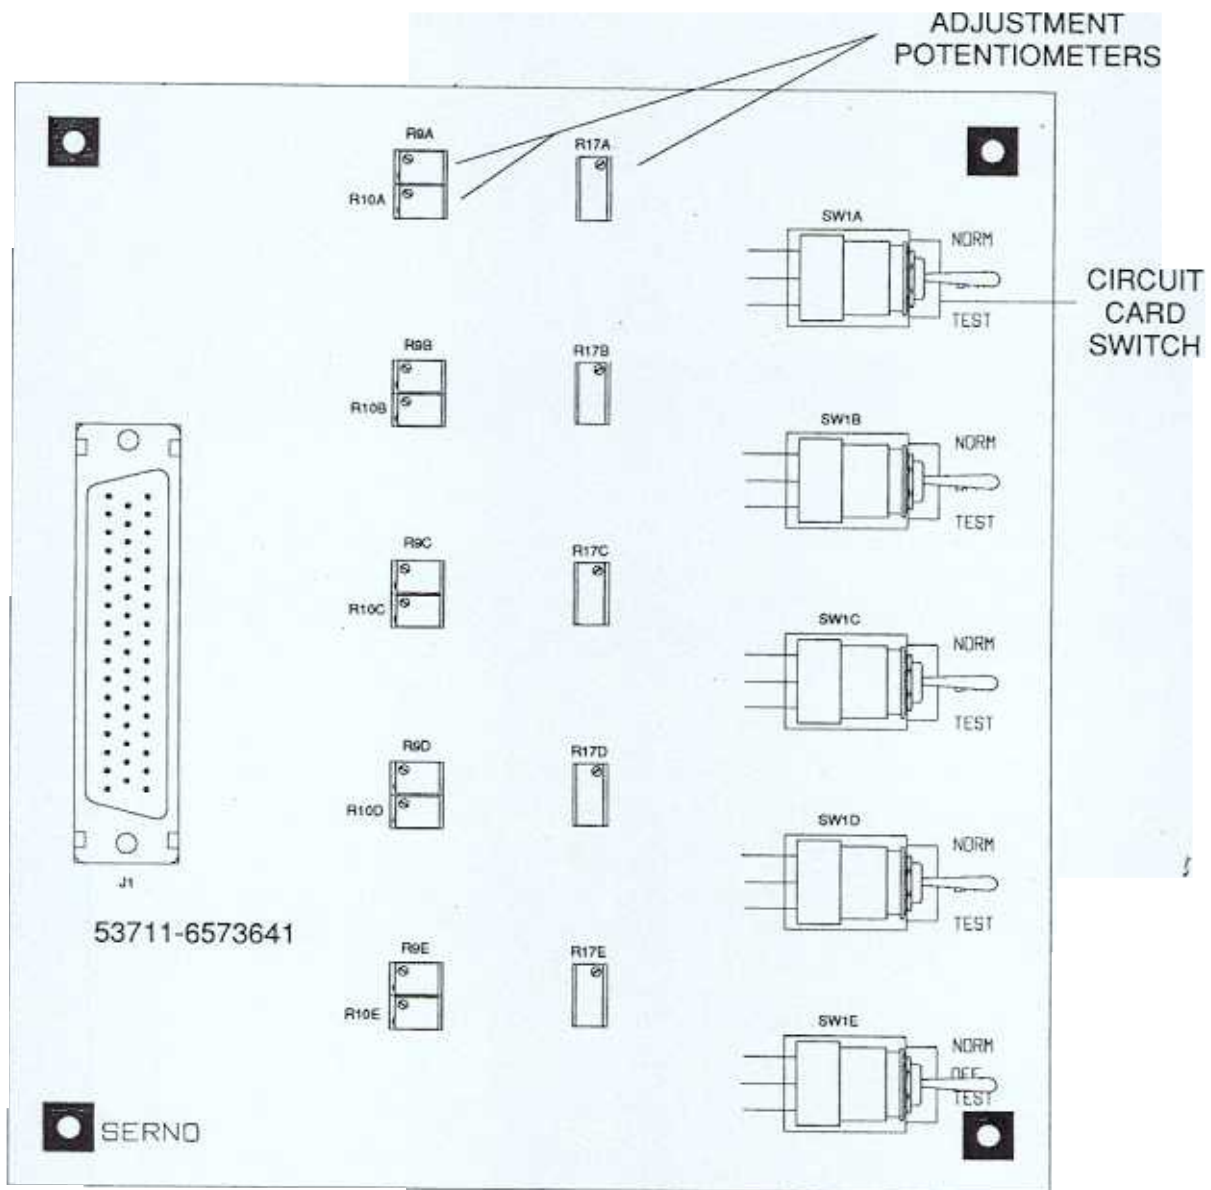
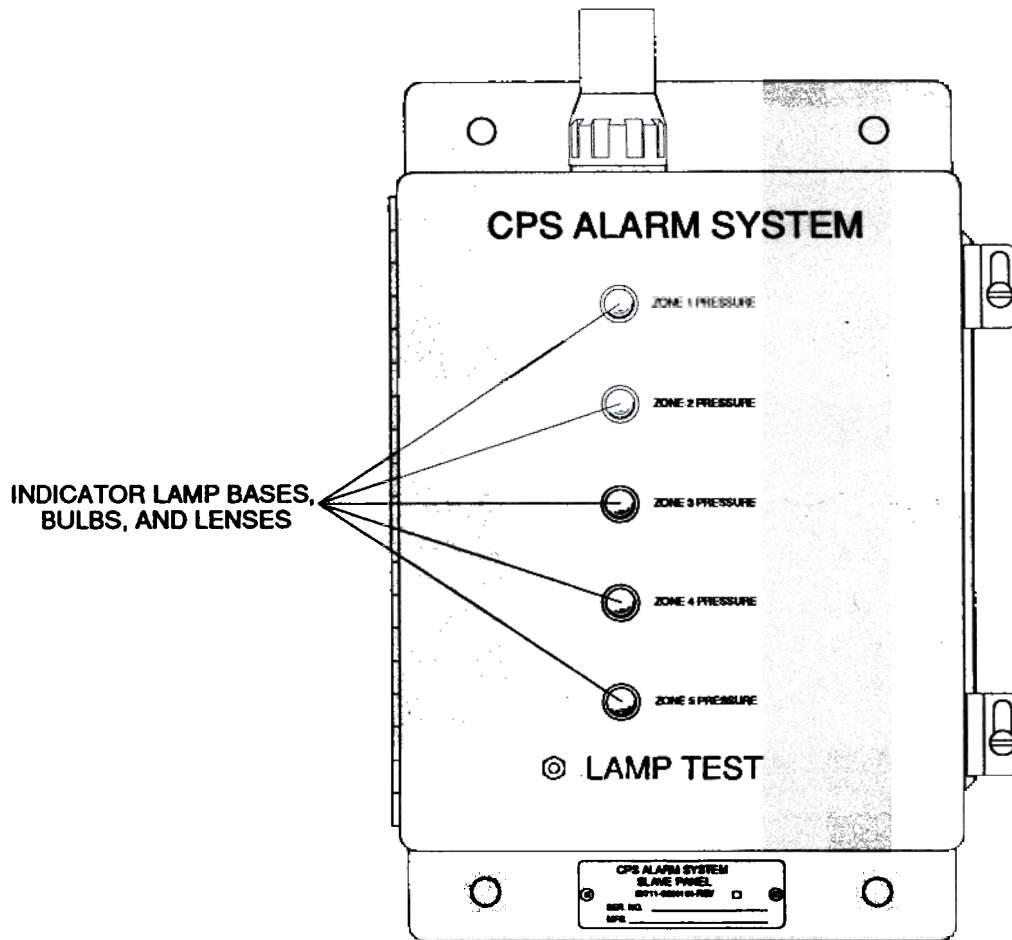

Figure 6-5. Circuit Card
Figure 6-6. Slave Panel
R17 of the proper zone (potentiometers are labeled R17A to R17E (figure 6-5) on the circuit card for zone 1 to 5 respectively) counter-clockwise until the zone meter reads within the desired zero pressure range.
- (22) With the CPS zone unpressurized, all lamps on the slave panel should be illuminated (figure 6-6). Confirm lamp operation as required by pushing in the slave box lamp test switch.
- (23) To check the operation of the slave panel indicator lamp of the zone under test, ensure that the person at the zone sensor box has released the hand pump valve and the gauge needle is in the red zone (under 0.4 in. wg).
- (24) The indicator lamp for the zone under test should be illuminated.
- (25) Have the person at the zone sensor box apply pressure to the gauge with the hand pressure pump slightly until the gauge moves out to the red zone into the yellow or green zone (greater than 0.4 in. wg). Stabilize and maintain the pressure.
- (26) The slave panel indicator lamp should turn off.
- (27) Press the slave panel test switch. All of the slave indicators should illuminate including the indicator for the zone under going test/alignment.
- (28) Release the slave lamp test switch.
- (29) Have the pressure on the zone sensor gauge released slowly. The person at the sensor box should inform the person at the slave panel as the pressure reading approaches the red zone (0.4 in. wg) and as the pressure falls into the red zone on the gauge. The slave lamp for the zone under test should illuminate as the pressure falls below 0.4 in. wg.
- (30) If the slave panel does not function properly, refer to troubleshooting in Chapter 5.
- (31) Disconnect the hand pressure pump from the pressure gauge and the pressure transducer assembly. Reconnect the low pressure flexible tubing to the ports marked LOW on the gauge and the pressure transducer assembly. Reconnect the high pressure flexible tubing to the ports marked HIGH on the gauge and pressure transducer assembly. Check the flexible tubing connections for a tight fit on the fittings and that there are no tears in the tubing. Close and secure the zone sensor box panel, check the flexible tubing as the panel is closed to ensure that there are no kinks in the lines.
- (32) Repeat all alignment procedures for all TP zones.
- (33) Close and secure inner and outer panels of the master panel.
- reset before further adjustments are made. This procedure involves adjustment of potentiometers R9 and R10 (figure 6-5). The potentiometers are labeled R9A to R9E on the circuit card for zone 1 to 5 respectively.
- (12) The person at the master panel should have the person at the zone sensor box apply pressure to zone sensor gauge until the master panel zone meter needle is just barely above the 1.5 in. wg mark.
- (13) If the green lamp of the zone undergoing alignment is not illuminated, turn potentiometer R9 of the proper zone counter-clockwise until the green lamp just illuminates. If the green lamp was illuminated at the start of the step, turn R9 clockwise until it turns off, then turn R9 counter-clockwise until it just illuminates.
- (14) Let the pressure drop until the zone meter needle is just below 1.5 in. wg but greater than 1.4 in. wg. The green lamp should turn off and the yellow lamp should illuminate as the needle of the meter moves from the green area into the yellow area.
- (15) If the green lamp does not turn off, turn R9 slightly clockwise until the yellow lamp just illuminates and the green lamp turns off. Bring the pressure back up to just over 1.5 in. wg and repeat steps 12 through 15 until proper transition occurs.
- (16) The person at the master panel should have the person at the zone sensor box apply pressure to zone sensor gauge until the master panel zone meter needle is just barely below the 0.4 in. wg mark.
- (17) If the red lamp of the zone undergoing alignment is not illuminated, turn potentiometer R10 of the proper zone counter-clockwise until the red lamp just illuminates. If the red lamp was illuminated at the start of this step, turn R10 clockwise until it turns off, then turn R10 counter-clockwise until it just illuminates.
- (18) Raise the pressure until the zone meter needle is just above 0.4 in. wg but less than 0.5 in. wg. The red lamp should turn off and the yellow lamp should illuminate as the needle of the meter moves from the red area into the yellow area.